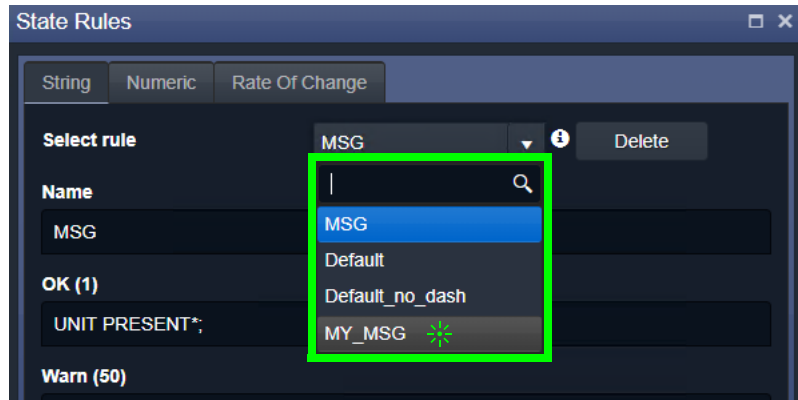

Figure 67: Select Rule Drop-Down List
- 3 Select the state rule to edit from the **Select Rule** drop-down list. See Figure 67.